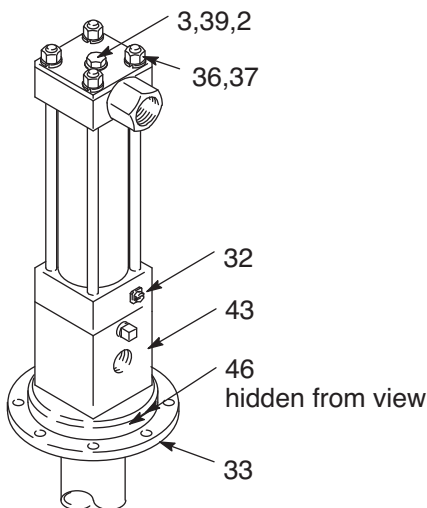

FIG. 7
1. Place the adapter (43) in a vise. Remove the four capscrews (46) and the base (33). Pull the bottom cap (32) off the adapter. See FIG. 7. If needed, replace the seals as described in Repair on page 12.
2. Remove the capscrew (3), nuts (36), and lockwashers (37) on top of the reciprocator. (FIG. 7)
4. Remove the capscrew (3), nuts (36) and lockwashers (37) on top of the reciprocator. See FIG. 7.